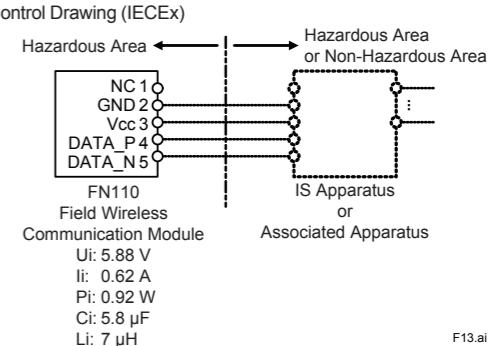

Figure 6.2 Control Drawing, IIE023-A72 for IECEx Certification
- Installation should be in accordance with local installation requirements. Refer to "Figure 6.2 Control Drawing, IIE023-A72 for IECEx Certification and Note 4 of 6.3.2 Installation".